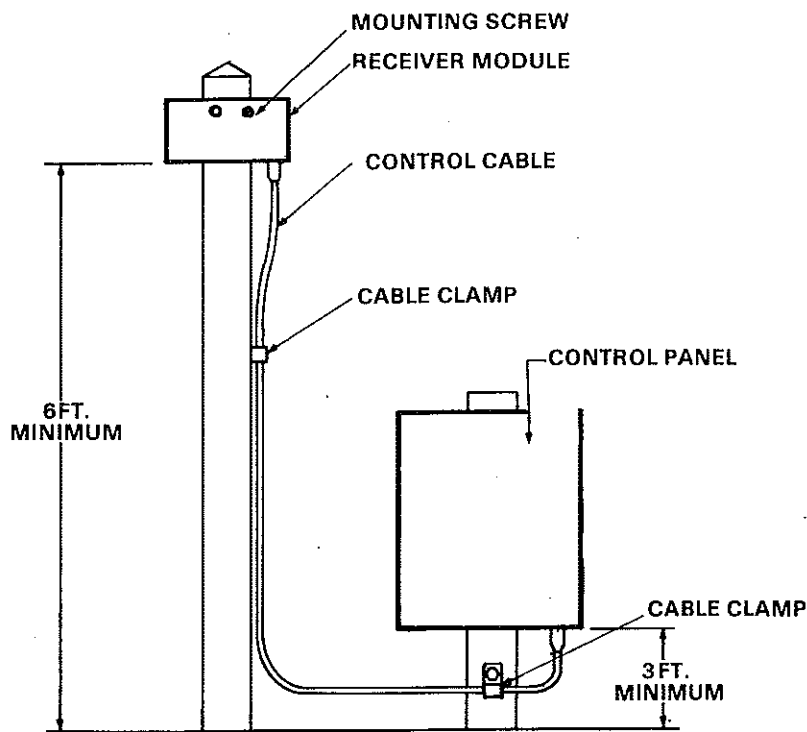

Fig. 6
- c) Install cable clamps. Make certain the cable has no sharp bends, the cable connections are secure and properly strain relieved See Fig. 6.